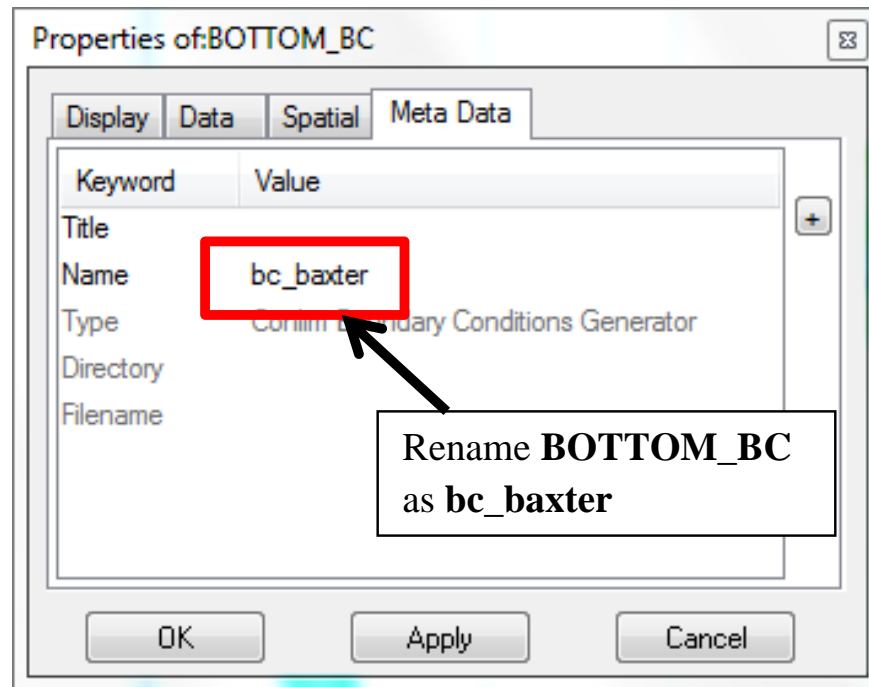

Figure 56: Rename the **BOTTOM BC** object for ease of identification
Step 2 , rename the boundary conditions file (e.g. `bc_baxter`). This can be done by double-clicking the **BC BOTTOM** object and changing the **Name** under the **Meta Data** tab (Figure 56).